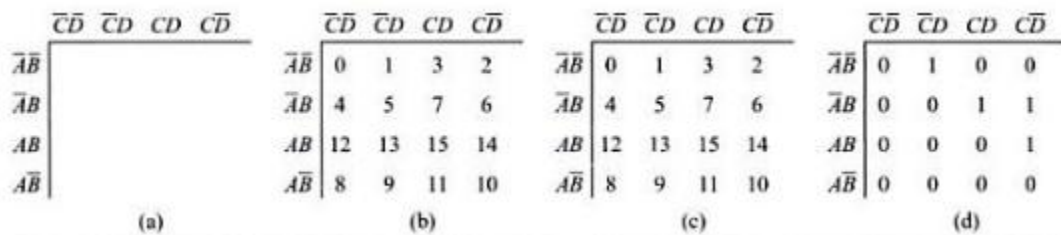

Figure 3.9: Four variable kmap
- Figure 3.9 shows four-variable kmap (Table 3.7).